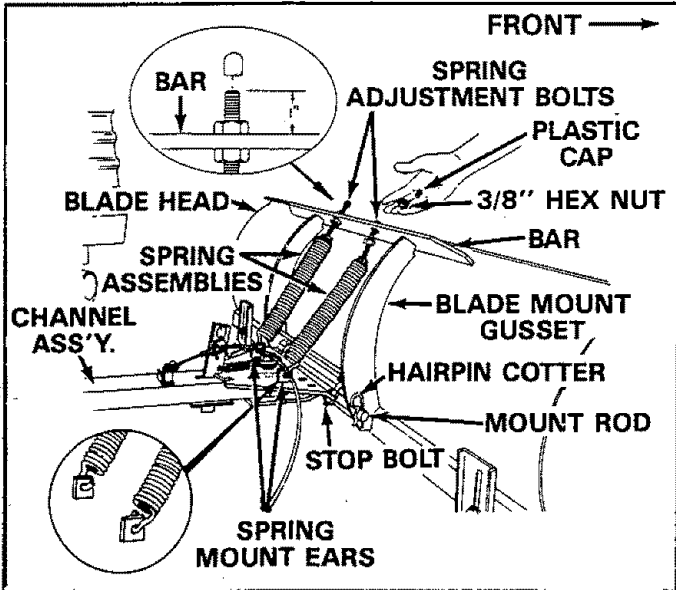

FIGURE 11
- Connect curved end of spring assemblies into spring mount ears. See figure 11. Remove plastic cap and one 3/8" hex nut from end of each spring assembly. Hold blade back against stop bolts and assemble spring adjustment bolts up through bar. Re-assemble two 3/8" hex nuts, removed earlier, onto adjustment bolts on top side of bar. Tighten both spring adjustment nuts approximately 1" down from end of bolt threads, see figure 11, to provide tension of blade against stop bolts.